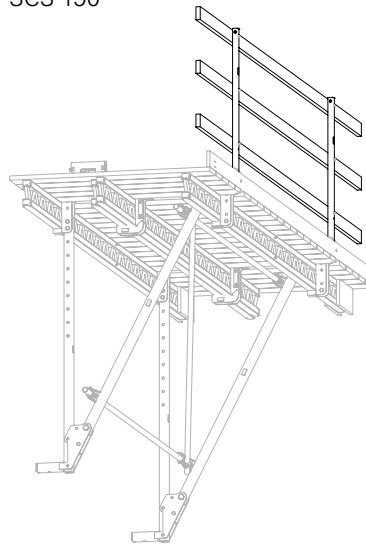

Fig. B1.17a
- The Crossbeam Unit SCS 250 is shown here for assembly. (Fig. B1.17a + B1.17b)